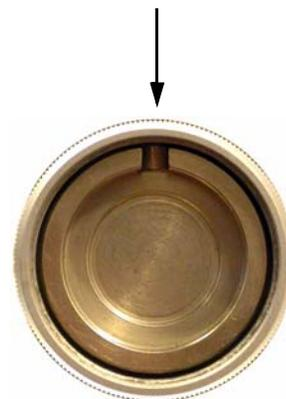

Figure 5.3 – View of the bottom of the goniometer head
5. Place the goniometer head onto its base on the phi drive. Line up the slot on the bottom of the goniometer head with the pin on the mounting base (see Figure 5.3).